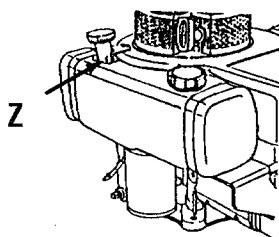

Figure 5-1: Briggs and Stratton engine oil fill.
3. Clean area around dipstick (Z, Figure 5-1) to prevent dirt from entering oil fill hole.
2. Remove dipstick (Z, Figure 5-1).